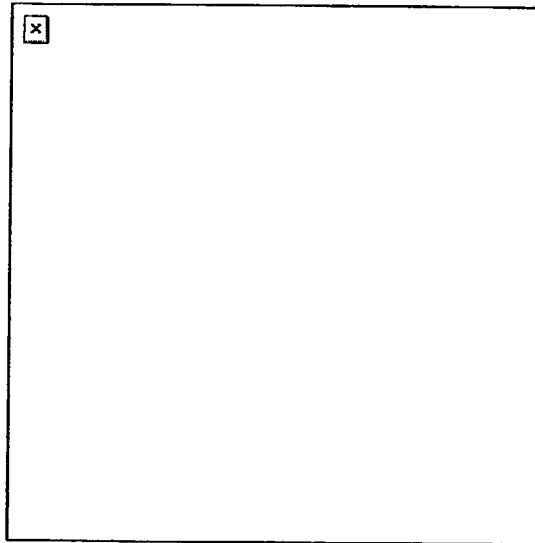
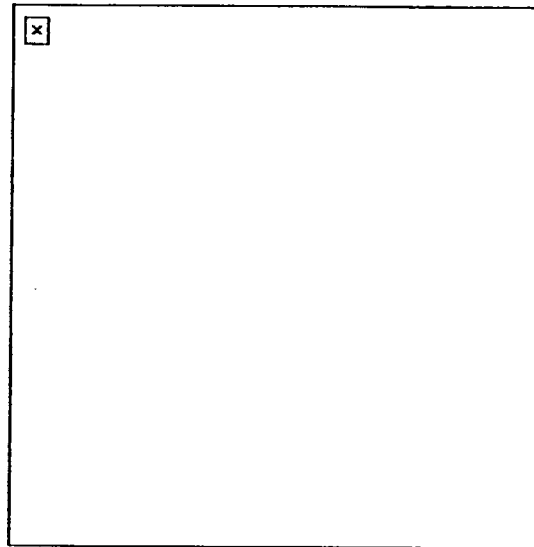

Figure 1. Sliding scale on sight.
Figure 2. Lowering the bipod.
- a. Elevation: Using the elevation knob, index the known range (300 meters) to the target. Center the peep sight by rotating it clockwise (right) as far as it will go, then rotate it counterclockwise (left) 5 clicks (Figures 1 and 2).
**NOTE:** The elevation range scale wheel has range settings from 300 to 1,000 meters. The even numbered range settings are on the left side of the scale wheel and the odd numbered range settings are on the right (Figure 1 and Figure 2).
- b. Windage. Rotate the windage knob toward the muzzle until the peep sight is completely to the right, then rotate the windage knob toward the buttstock 12 clicks to the left. This will place the peep sight in the approximate center of the sight (Figures 1 and 2).